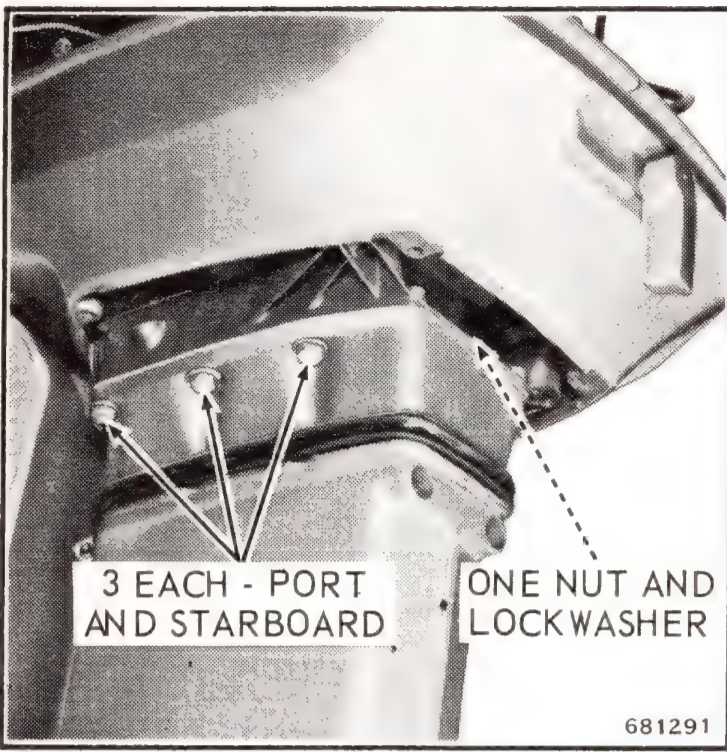

Figure 5-13. Power Head Attaching Screws
g. Remove aft nut and washer from stud in power head. Remove six screws attaching power head to exhaust housing and adapter assembly. See Figure 5-13.